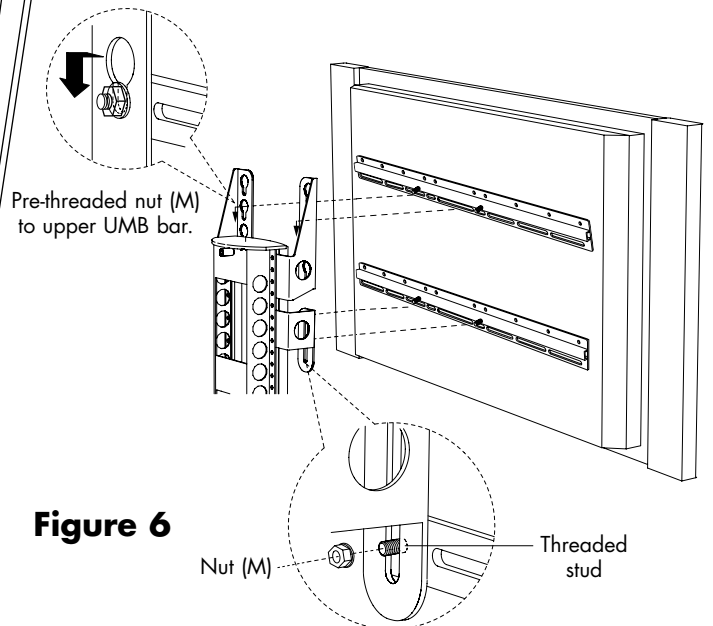

Figure 6
8. Attach flat screen TV. Carefully "hook" TV onto screen brackets as shown (Fig. 6). Make sure both pre-threaded nuts drop into key hole slot and that threaded studs go into slot on bottom screen brackets (HBL & HBR). Tighten nuts (M) using wrench. **Note:** Vista will support flat screens up to 225lbs (102kg). **Note:** Vista is NOT designed to support televisions greater than 6" in depth.